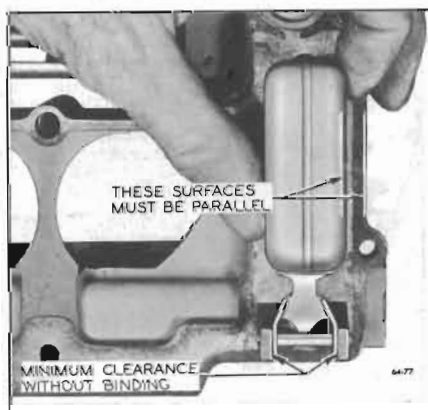

Figure 64-77—Float Alignment
9. Align Float - Sight down side of float to determine if side is parallel with outer edge of air horn. If adjustment is necessary, bend float lever by applying pressure to end of float with fingers while supporting float lever with thumb. See Figure 64-77.